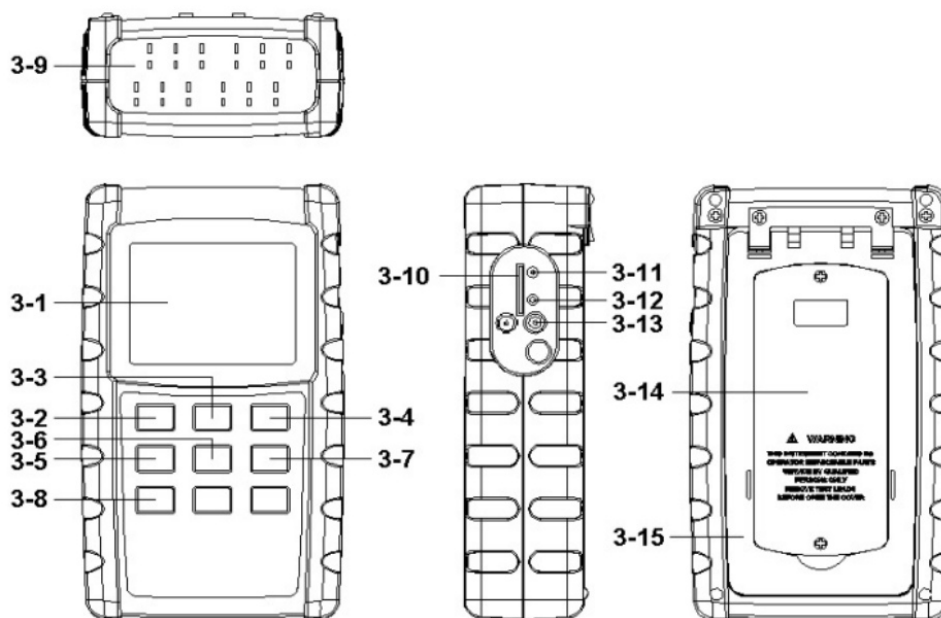

Fig. 1
1. Power on the meter by pressing the „ Power button „ (3-2, Fig. 1) once.
3. Insert the Type K probes into the „ T1, to T12 input socket „ (3-9, Fig. 1).
If intend to show the other 4 channels (CH9, CH10, CH11, CH12) temperature value, just press the „ Page Button „ (3-6, Fig. 1) once , the Display will show those channels' Temp. value following, press the „Page Button „ (3-6, Fig. 1) once again, the Display will revert to the 8 channels (CH1, CH2, CH3, CH4, CH6, CH7, CH8) screen.
Type J, T, R, S „ by pressing the „ Type Button „ (3-5, Fig. 1) once in sequence until the up LCD display show the „ J, K,T, E, R, S „ indicator.
During the measurement, press the „ Hold Button „ (3-3, Fig. 1) once will hold the measured value & the LCD will display a „ HOLD „ symbol. Press the „ Hold Button „ once again will release the data hold function.
1. The data record function records the maximum and minimum readings. Press the „ REC Button „ (3-4, Fig.1) once to start the Data Record function and there will be a „ REC „ symbol on the Display.
- a) Press the „ REC Button „ (3-4, Fig. 1) once, the „ REC MAX „ symbol along with the maximum value will appear on the Display. If intend to delete the maximum value, just press the „ Hold Button „ (3-3, Fig. 1) once, the Display will show the „ REC „ symbol only & execute the memory function continuously.
- b) Press the „ REC Button „ (3-4, Fig. 1) again, the „ REC MIN „ symbol along with the minimum value will appear on the Display. If intend to delete the minimum value, just press the „ Hold Button „ (3-3, Fig. 1) once, the Display will show the „ REC „ symbol only & execute the memory function continuously.
After power ON, the „ LCD Backlight „ will light automatically. During the measurement, press the „ Backlight Button „ (3-2, Fig. 1) once will turn OFF the „ LCD Backlight „. Press the „ Backlight Button „ once again will turn ON the „ LCD Backlight „ again.
a. Insert the SD card Prepare a „ SD memory card „ (1 GB to 16 GB, optional), insert the SD card into the „ SD card socket „ (3-10, Fig. 1). Please plug the SD card in the right direction, the front name plate of the SD card should face against the up case.
Press the „ REC Button (3-4, Fig. 1) once , the LCD will show the text „ REC „, then press the „ Logger Button „ (3-7, Fig. 1), the „ REC „ will flashing and beeper will sound, at the same time the measuring data along the time information will be saved into the memory circuit. Remark :
During execute the Datalogger function , if press the „ Logger Button „ (3-7, Fig. 1) once will pause the
If press the „ Logger Button „ (3-7, Fig. 1) once again will execute the Datalogger again, the text of „ REC „ will flashing .
During pause the Datalogger, press the „ REC Button „ (3-4, Fig. 1) continuously at least two seconds, the „ REC „ indicator will be disappeared and finish the Datalogger.
a. Set sampling time is to 0 second Press the „ REC Button (3-4, Fig. 1) once , the LCD will show the text „ REC „, then press the „ Logger Button „ (3-7, Fig. 1) once, the „ REC „ will flashing once and Beeper will sound once, at the same time the measuring data along the time information and the Position no. will be saved into the memory circuit.
* During execute the Manual Datalogger, press the „ ▲ Button „ (3-5, Fig. 1) once will enter the „ Position / Location no. setting. use the „ ▲ Button „ or „ ▼ Button „ (3-6, Fig. 1) to select the measuring location no. (1 to 99, for example room 1 to room 99) to identify the measurement location.
After the position no. is selected, press the „ Enter Button „ (3-4, Fig. 1) once will save the Position/Location no. automatically.
Press the „ REC Button „ (3-4, Fig. 1) continuously at least two seconds, the „ REC „ indication will be disappeared and finish the Datalogger.
During the normal measurement (not execute the Datalogger), If press „ Time check Button „ (3-8, Fig. 1) once , the left lower LCD display will present the time information (Year, Month/Date, Hour/ Minute) in sequence.
During the normal measurement (not execute the Datalogger), If press „ Sampling time check Button „ (3-7, Fig. 1) once , the left lower LCD display will present the Sampling time information in second unit.
- 1. After execute the Data Logger function, take away the SD card out from the „ SD card socket „ (3-10, Fig. 1).